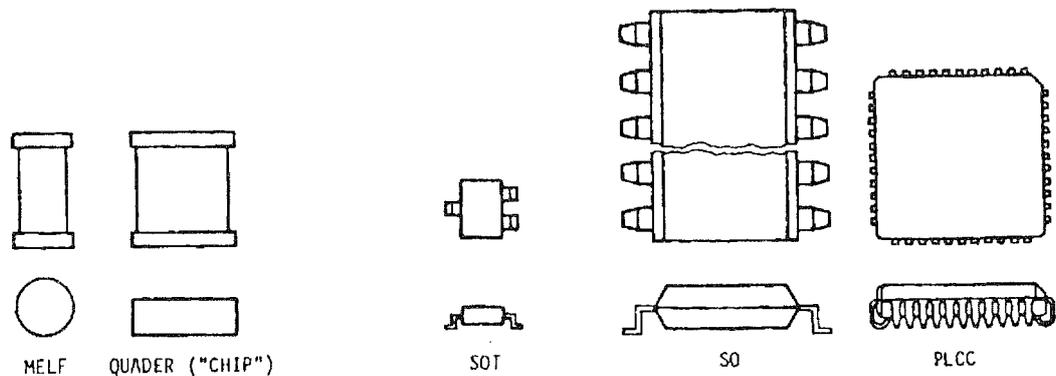

Fig. 2-2 Various SMD outlines
- SMDs without pins (Melf + chip) (see Figure 2-2)